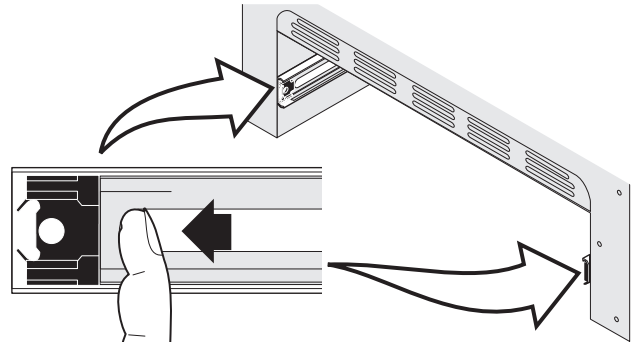

Figure 50: Bearing glide placement
1. Pull the bearing glides to the front of the outer compartment glide channels until they snap into place (See Figure 50).